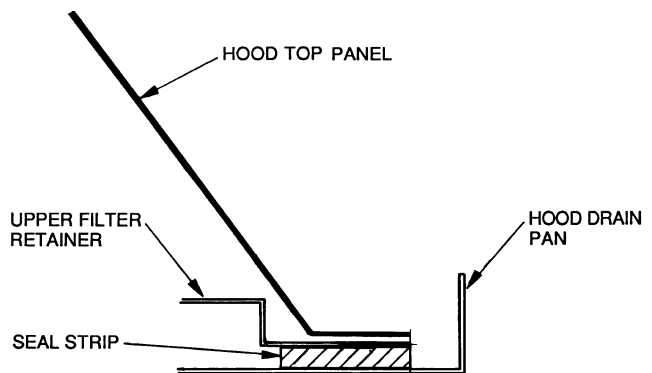

Fig. 21 — Seal Strip Location
1. Attach seal strip to upper filter retainer. See Fig. 21.